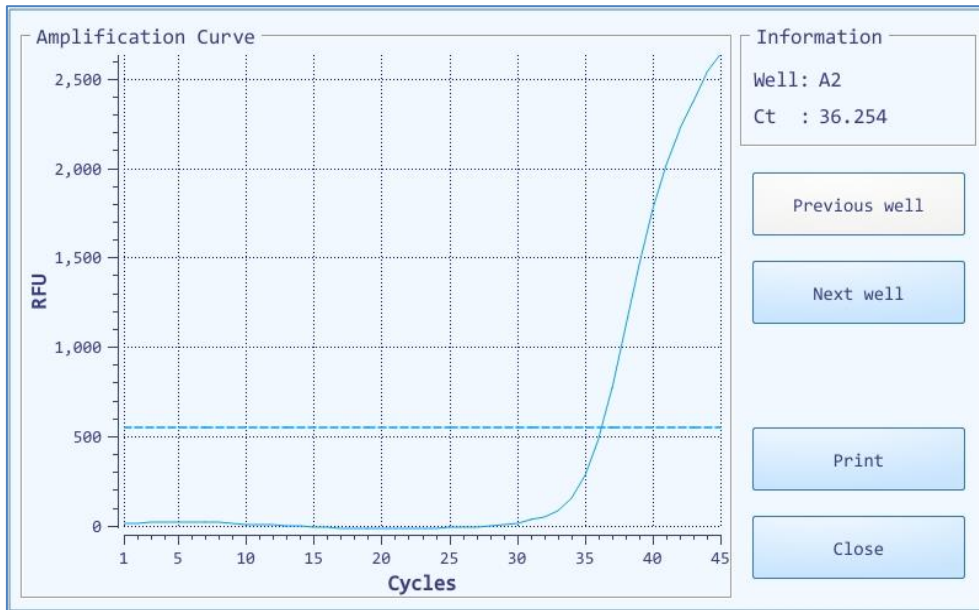

Figure E-5.2. Run Monitoring Diagram - Amplification Result
- ▶ User can press any well on the fluorescence heat map to check the amplification result of this sample, as shown in figure E-5.2.